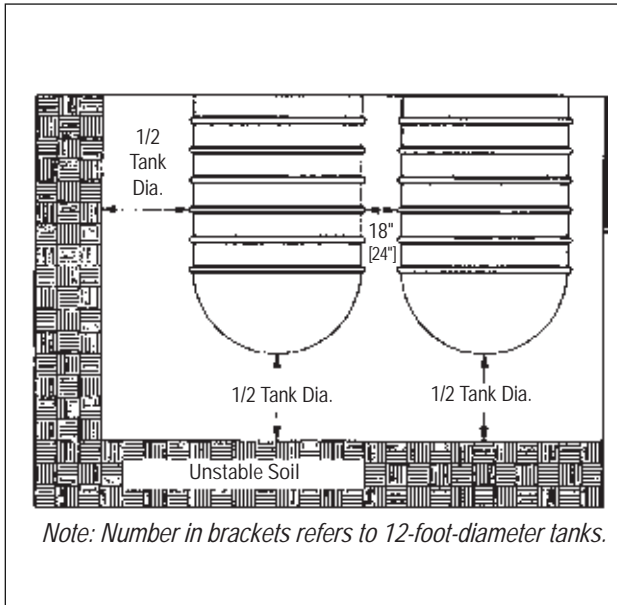

FIGURE 6-5
6.3.3.1. If the soil has less than 750 lbs./sq. ft. cohesion as calculated from an unconfined compression test; or in soils having an ultimate bearing capacity of less than 3,500 lbs./sq. ft.; or where soil will not maintain a vertical wall, the excavation must allow a minimum space equal to half the diameter of the tank between the excavation wall and both the side and the endcap of the tank to enhance lateral resistance. (See FIGURE 6-5.)
6.3.3.2. The spacing between adjacent tanks is to be at least 18 inches [24 inches for 12-foot-diameter tanks]. (See FIGURE 6-5.)